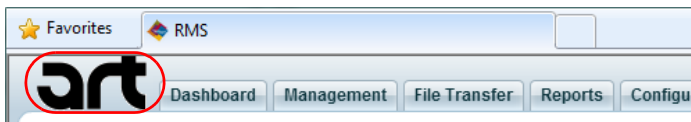

FIG. 348 Logo Image
5. Click the **Back to Dashboard** button to refresh the application window to display the custom Logo (FIG. 348):